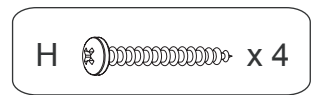

Fig. 3
- Spread a thin layer of glue in the holes of the Right and Left Legs (Eb and Fb). Place the Legs at the corners of the Shelf Assembly as shown in Figure 3. The drilled corners of the legs should face the corner braces. Insert the dowels into the holes on the legs and gently tap into place using a mallet or padded hammer. Wipe up any excess glue with a damp rag. Using the predrilled holes as guides, secure the legs to the Shelf Assembly with #8x1-1/4" Pan Screws (H). See Figure 3.